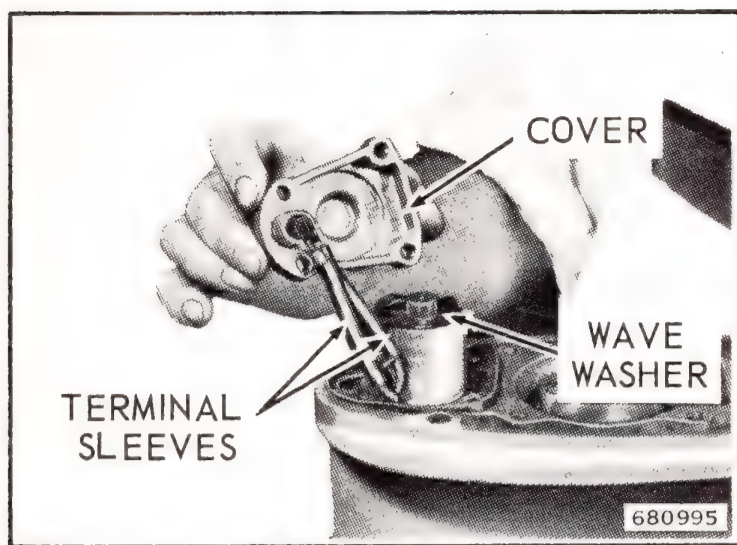
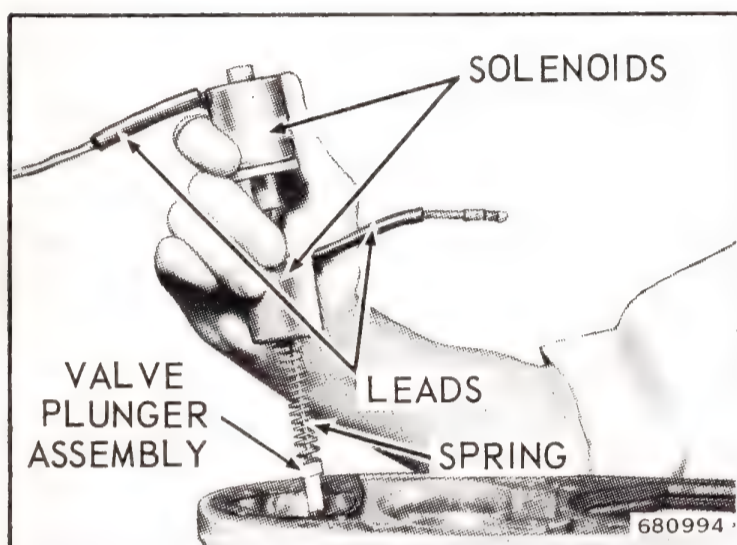

Figure 6-18. Shift Cable to Solenoid Lead Terminals
Figure 6-19. Solenoid and Valve Plunger Assembly
d. Remove four screws, solenoid cover and wave washer. Disconnect shift cable leads. See Figure 6-18. Lift solenoids and plunger assembly from gearcase. See Figure 6-19.
- s. Install solenoid assembly, making certain plunger valve enters oil pump body. **DO NOT FORCE.** See Figure 6-19.